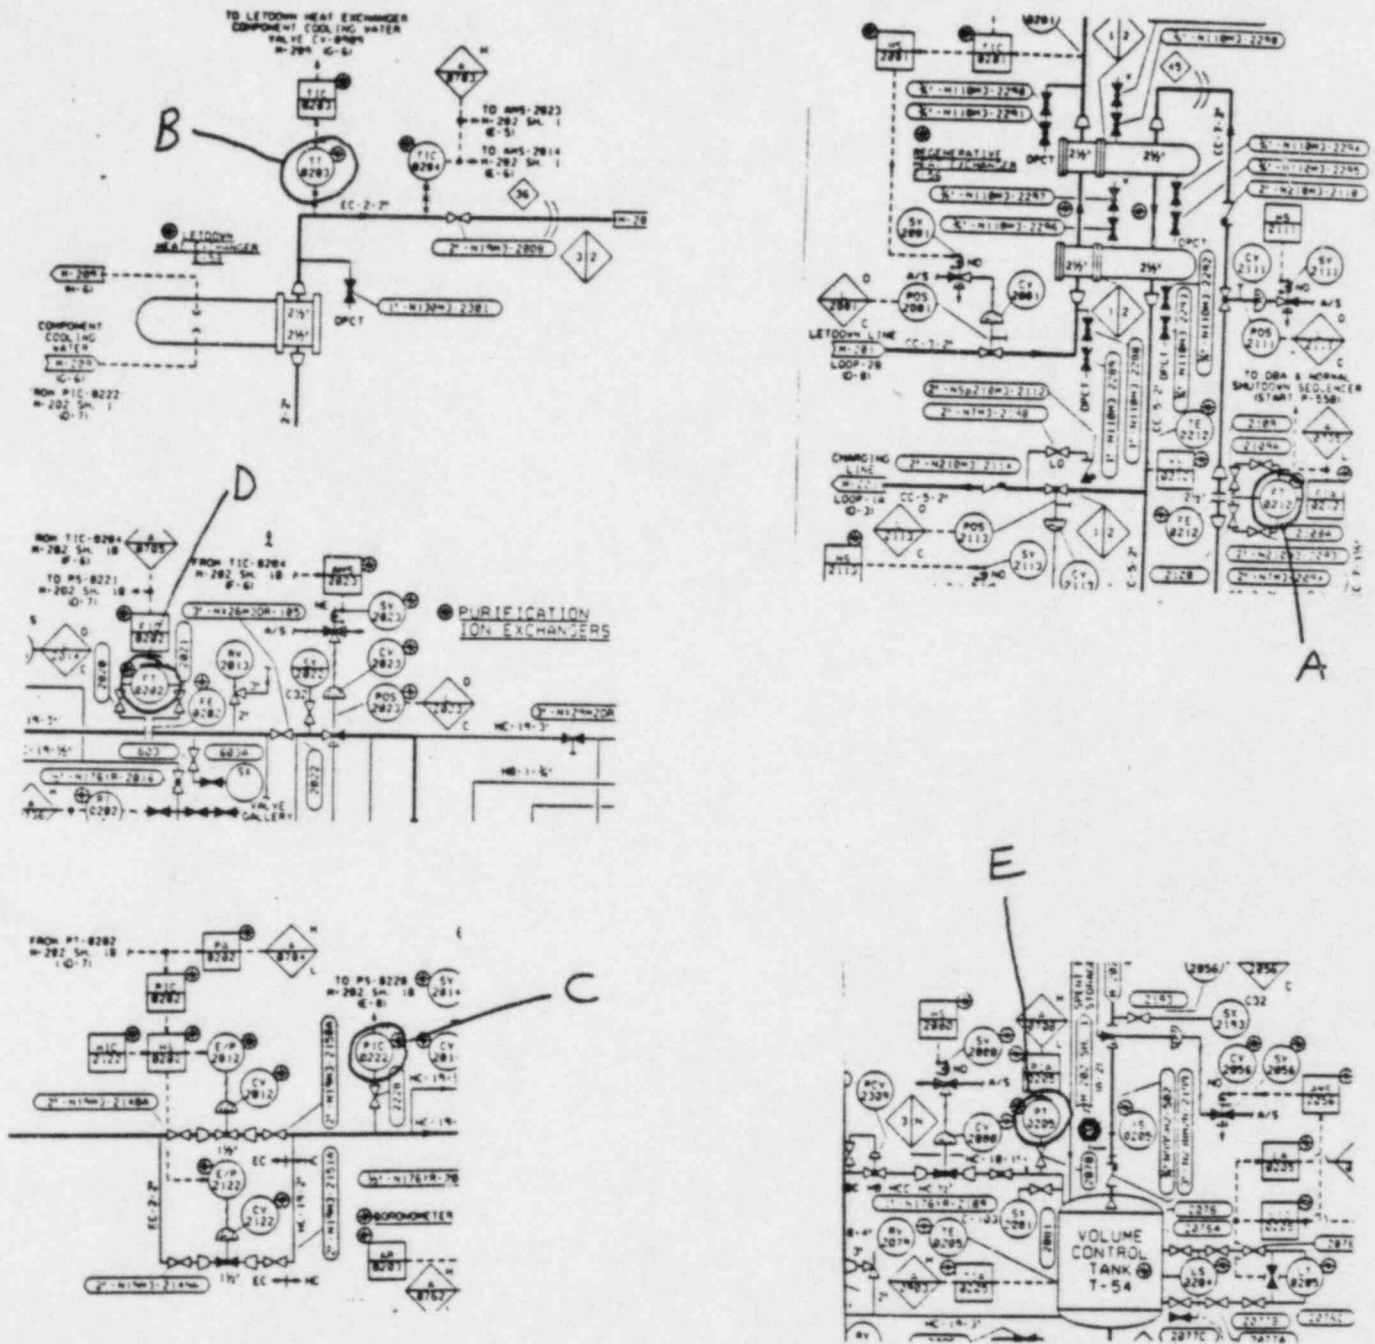

FIGURE 3.01. Portions of CVCS
Using the attached Figure 3.01 of the CVCS, what are the nominal readings on the five (5) instruments indicated A through E. The power plant is operating at 100% of full power and one charging pump is running.